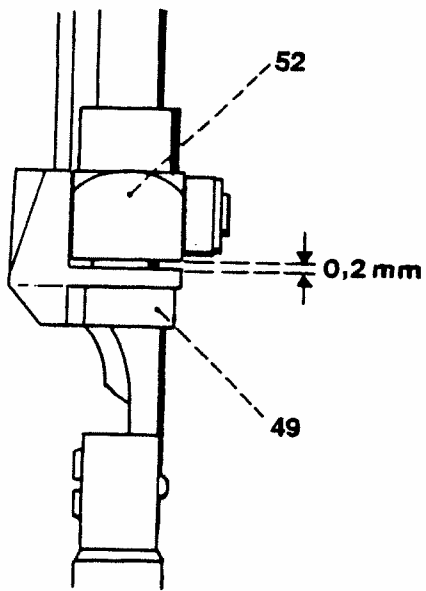

Fig. 6a
- Set guide piece 49 at a clearance of 0.2 mm from cross head 52 (fig. 6a).